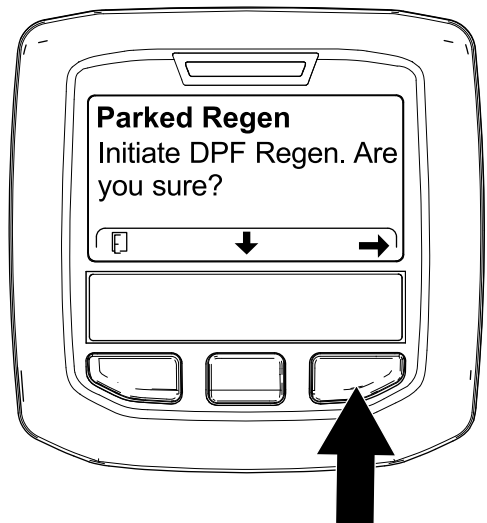

Figure 56
- At the INITIATE DPF REGEN screen, press the right button to continue (Figure 56).